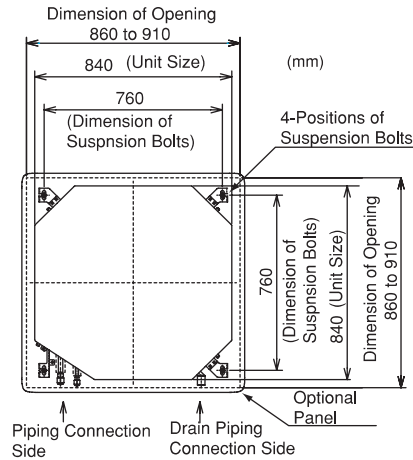

Fig. 3.3 Opening of False Ceiling and Suspension Bolts
- (1) Determine the final location and installation direction of the indoor unit paying careful attention to the space for the piping, wiring and maintenance. Pattern board for installation is printed on the packing. Cut off the pattern for opening the false ceiling and installation suspension bolts.
- (2) Cut out the area for the indoor unit in the false ceiling and install suspension bolts, as shown in Fig. 3.3.